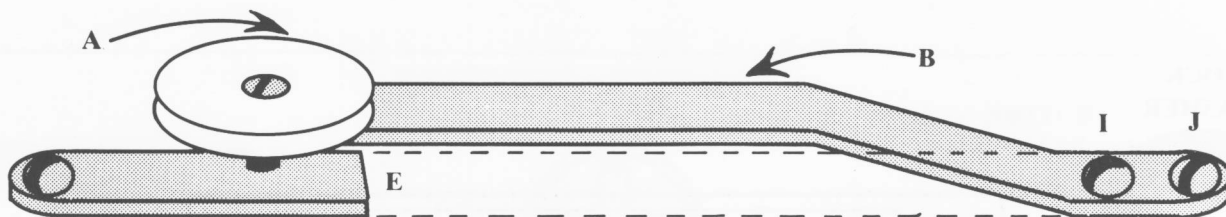
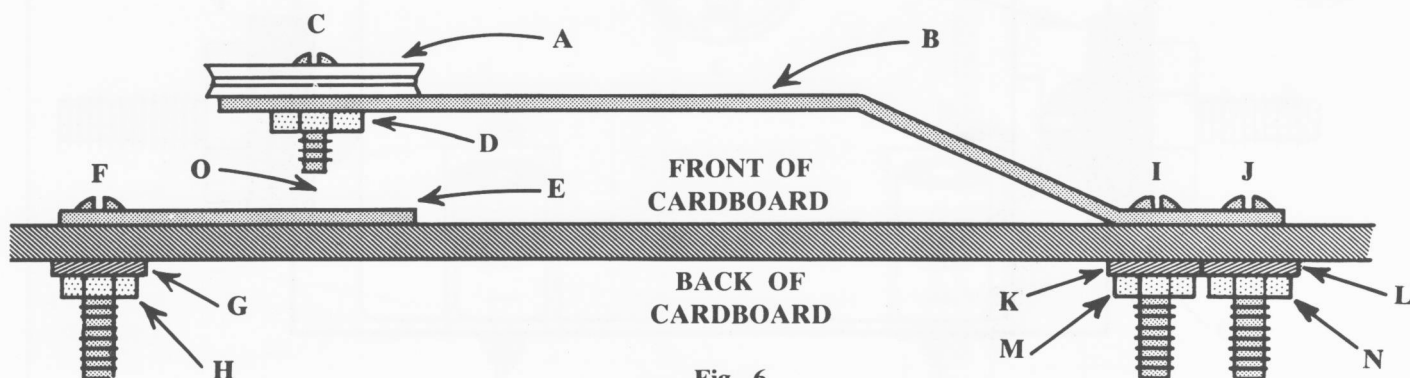

Fig. 5
Fig. 6
6) Locate the white push button disk (B in Fig. 1). Attach the disk (A in Figs. 5 and 6) to the push button strip (B in Figs. 5 and 6), using a #2 bolt (C in Fig. 6) and its nut (D). Tighten firmly with screwdriver and pliers or wrench.
7) The part that you have just made is to be attached to the push button section of the computer box as shown at C in Fig. 1. But first a contact strip must be attached, as shown at D in Fig. 1. The entire assembly of the push button is shown in Figs. 5 and 6. Note the flat brass strip at E in Fig. 5. Locate this strip among your parts. Place it on the part of the computer box as shown at D in Fig. 1. Insert a #6 bolt through the hole in the strip and the hole in computer box. Add a lock washer (G in Fig. 6) and nut (H) to the bolt (F) at the back of the computer box. Be sure that the strip lines up properly, as shown at E in Fig. 5. Then tighten the nut firmly.
Now attach the push button (B in Figs. 5 and 6) to the board using two bolts (I and J), lock washers (K and L), and two nuts (M and N). Tighten both firmly.
Check to see that there is an open gap (O in Fig. 6) between the bolt (C) of the push button and the strip (E). If not, you will have to bend strip B slightly. A gap of about $\frac{1}{8}$ " is desirable.